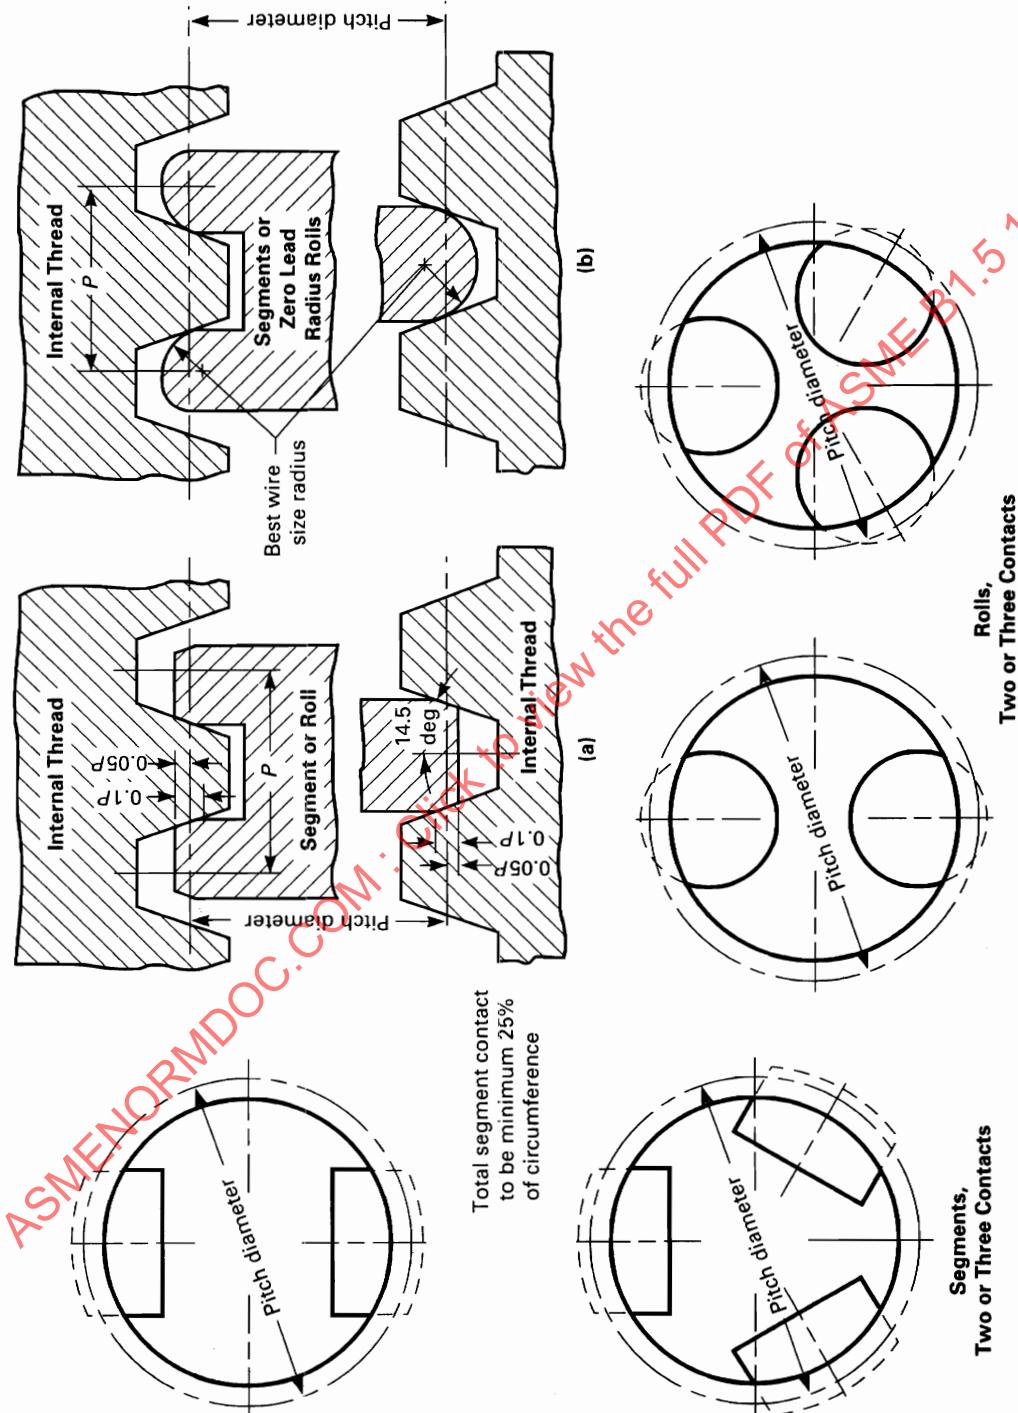

FIG. 22 INDICATING THREAD GAGES —
The differential gaging principle is explained in para. 4.5.10 for external threads. It is similar for internal threads and is illustrated in Fig. 27. The (Z) reading is taken with the maximum-material Go functional indicating gage illustrated in Fig. 20. The (Y) reading is taken with the full-form single cone and vee indicating gage illustrated in Fig. 28. The (X) reading is taken with the pitch diameter indicating gage illustrated in Fig. 22.